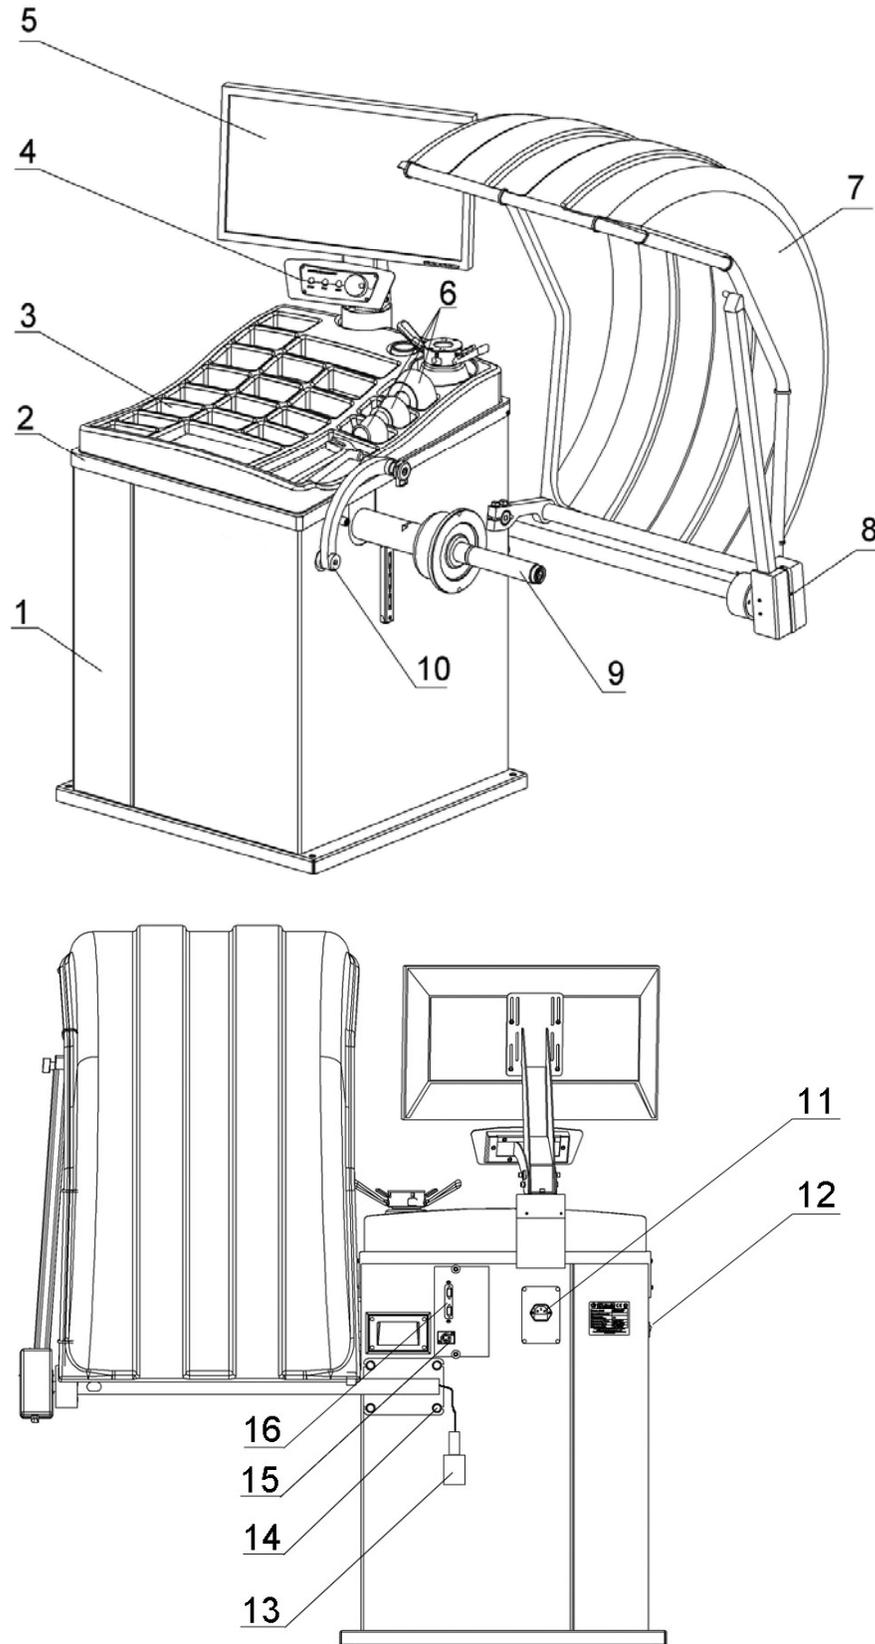

Figure 4.1
4.2.5 Fasten the bracket of the gauge arm by four bolts with a spring washer and washer. Plug the electric connector of the gauge arm to the socket on the machine body (Figure 4.1).
- plug DVI cable to monitor socket and jack 16 on machine body, shown on Figure 4.1.
4.2.7 Connect the power supply wire to the machine jack, located on the rear panel of the machine body (Figure 4.1) and to the supply mains equipped with the mains socket with the grounding contact. Connect monitor to supply mains, equipped with the mains socket with the grounding contact according to maintenance documentation.